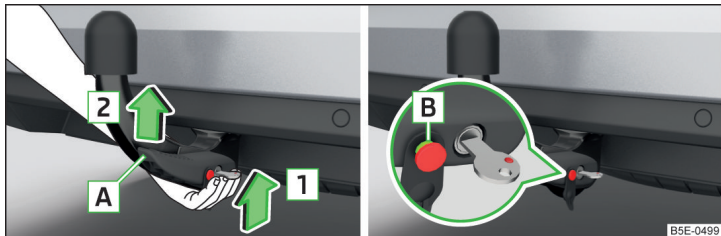

Fig. 182 Insert ball rod / trigger bolt in the extended state
- > Grip the tow bar **from underneath** » Fig. 182 and insert into the mounting recess in arrow direction **1** until you hear it click into place » **!**